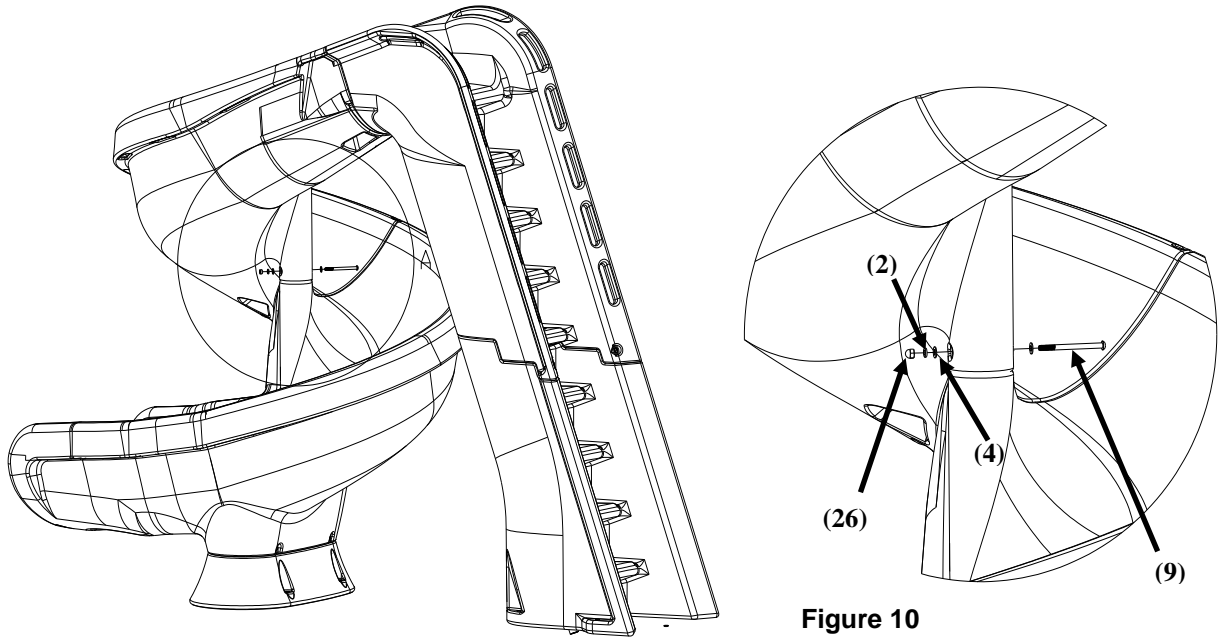

Figure 10
- 11) Stand the ladder upright and attach the runway entrance section to the runway exit section using the button head cap screw as shown in Figure 10 through the slides center column. Do not tighten the bolt at this point. **Notes: It may take more than one person to perform this step. Be sure to apply anti-seize to all fasteners to prevent galling.**